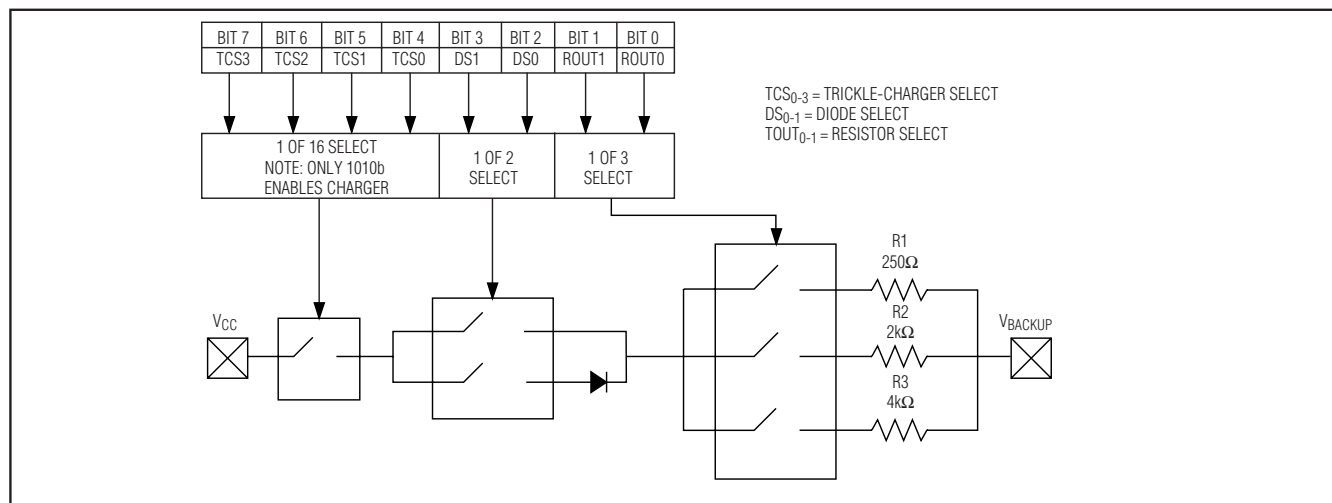

Figure 6. Trickle Charger Functional Diagram
The simplified schematic in Figure 6 shows the basic components of the trickle charger. The trickle-charge select (TCS) bits (bits 4–7) control the selection of the trickle charger. To prevent accidental enabling, only a pattern on 1010 enables the trickle charger. All other patterns disable the trickle charger. The trickle charger is disabled when power is first applied. The diode-select (DS) bits (bits 2, 3) select whether or not a diode is connected between VCC and VBACKUP. If DS is 01, no diode is selected; if DS is 10, a diode is selected. The ROUT bits (bits 0, 1) select the value of the resistor connected between VCC and VBACKUP. Table 3 shows the resistor selected by the resistor select (ROUT) bits and the diode selected by the diode select (DS) bits.